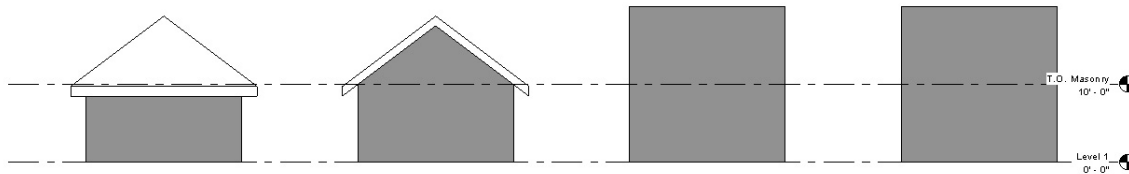

FIGURE 7-1.6 South elevation – gable roof
- Switch to the **South** elevation view (Figure 7-1.6).